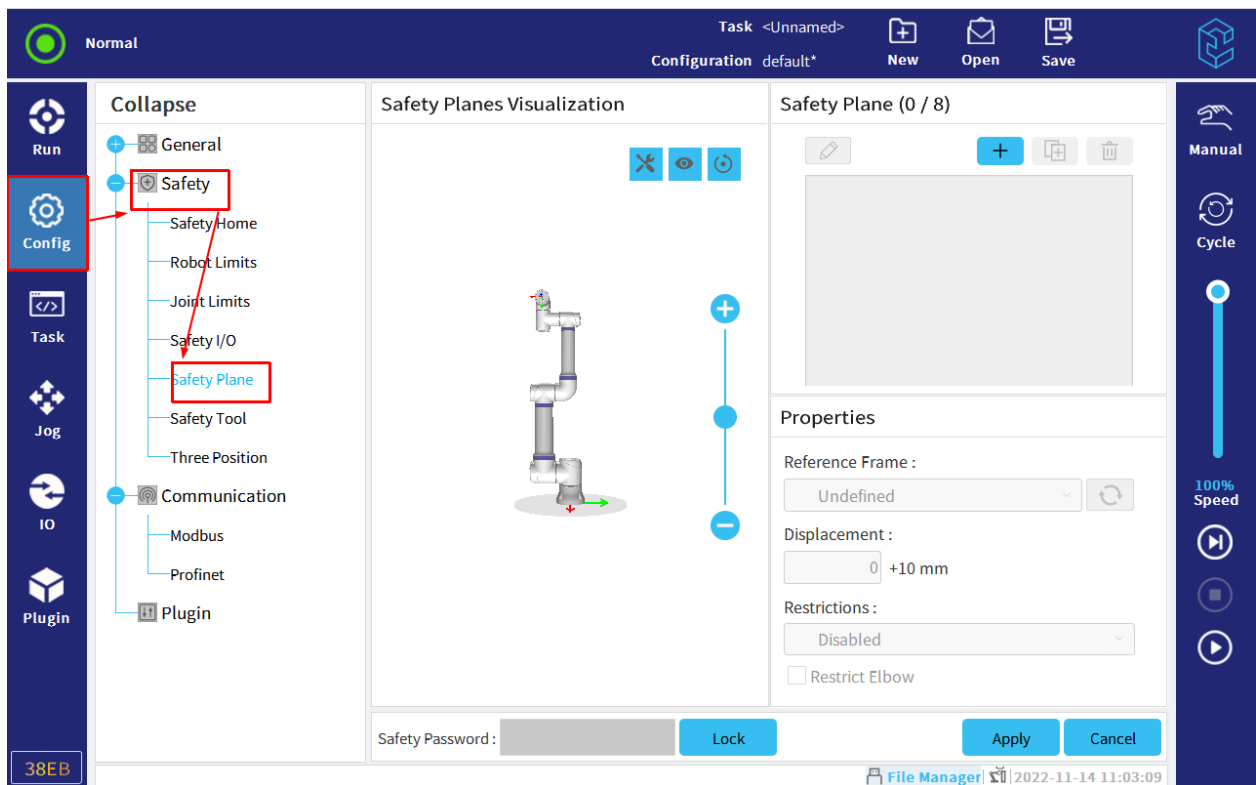

Figure 11-30 Safety planes
1. Select "Config > Safety > Safety Planes" and click  , as shown in Figure 11-30.